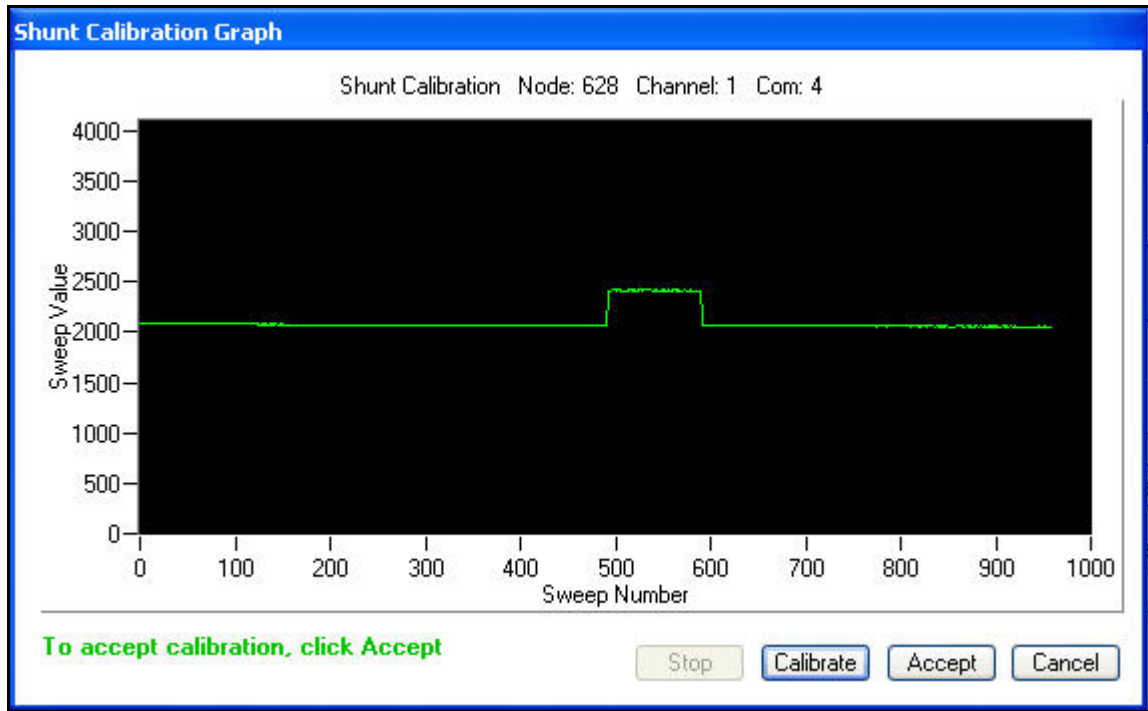

Figure 6
- The resultant graph will appear as exemplified in **Figure 6**.